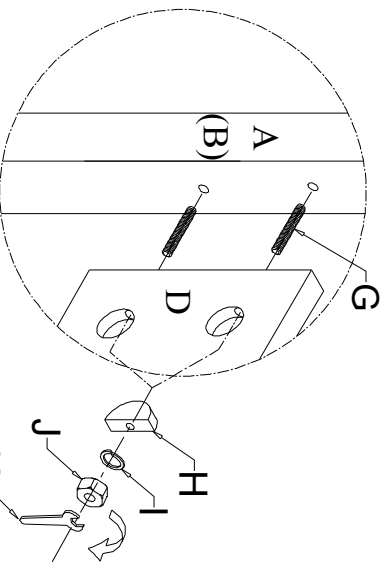

Figure1
1. Attach two Bolts to each post of Headboard and Footboard. (Figure1)
2. Attach Side Rails to the posts by using Curved Washers, Lock Washers, Nuts and Wrench. (Figure1)